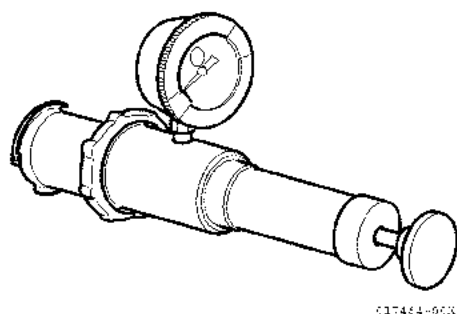

Figure 7-5
2. Pump until the cap opens (Figure 7-5).